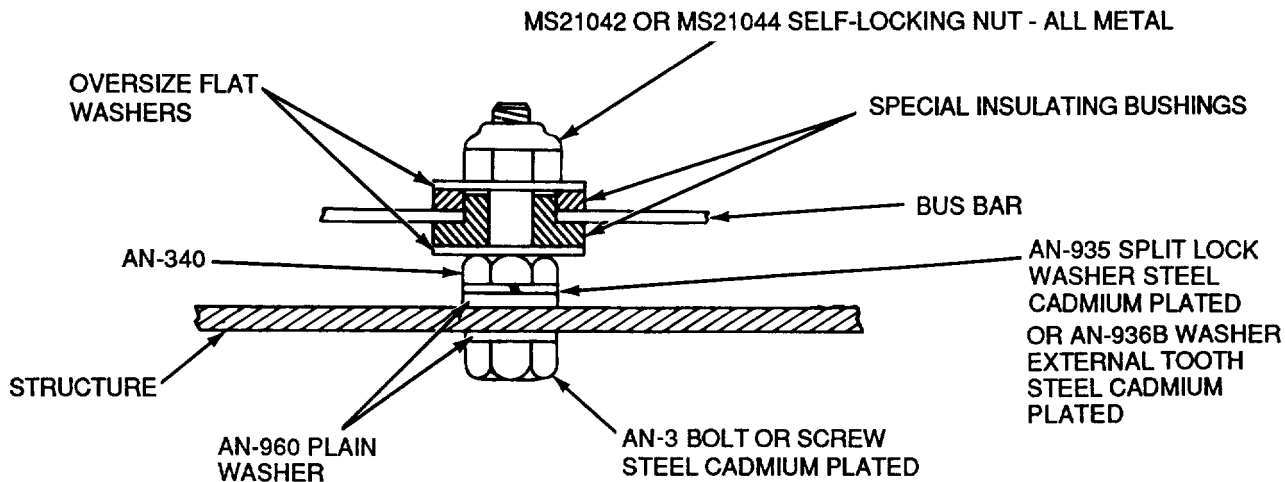

Figure 2. Bus Bar Mounting
16. **Mounting.** When installing a copper bus bar, always use a plain cadmium plated steel washer between the bus bar and the lockwasher or self-locking nut. When installing on aluminum alloy bus bar, use a plain aluminum alloy washer between the bus bar and the lockwasher or self-locking nut (Figure 2).